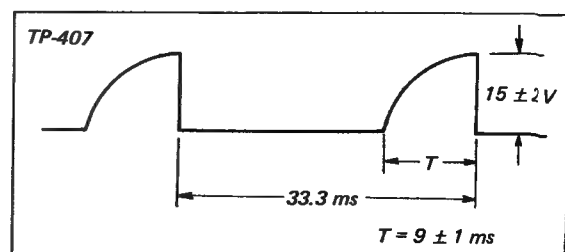

Fig. 6-2. Frequency divider check
Adjust for: The waveform shown in Fig. 6-2.
3. Adjust R433 so that the interval "T" in Fig. 6-2 is 9 ± 1 msec.
4. Confirm that pulse amplitude is 15 ± 2 volts as shown in Fig. 6-2.